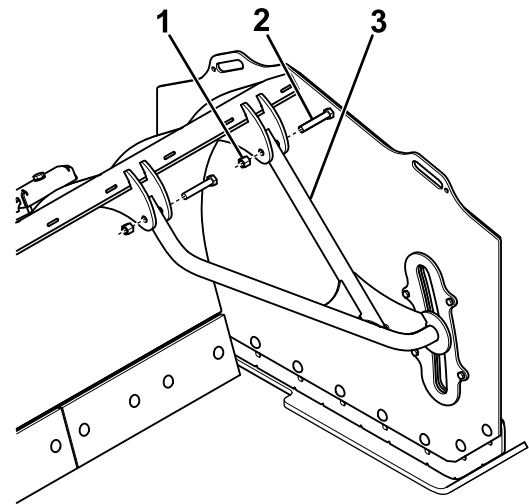

Figure 5
4. Slide a wing brace into the slot on the plow wing (Figure 5).
5. Secure the top of the wing brace to the tabs on the plow using 2 bolts (3/4 inch) and locknuts (Figure 5).